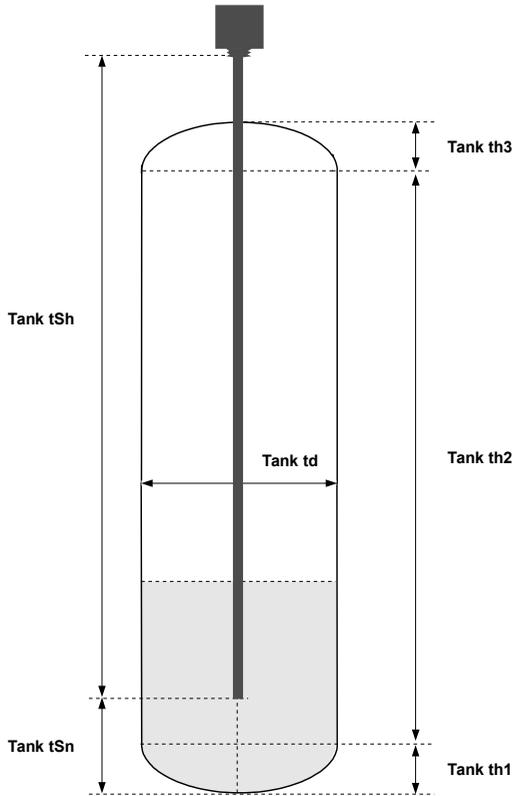
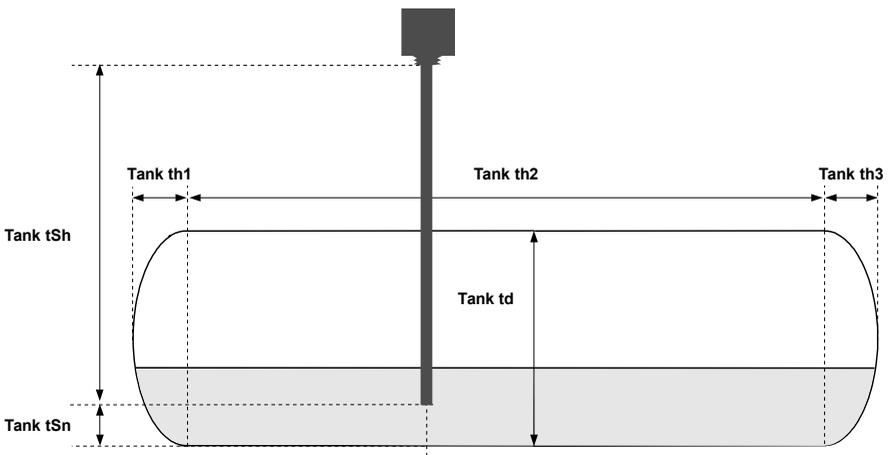

Figure 7.3. Tank parameters in vertical position
Figure 7.4. Tank parameters in horizontal position
- “Tank th1”** - the height of the **I** part of a tank in the shape of an elliptic paraboloid, fixed decimal point: 2, See **Figure 7.3** and **Figure 7.4**,
- “Tank th2”** - the height of the **II** part of a tank in the shape of a cylinder, fixed decimal point: 2, See **Figure 7.3** and **Figure 7.4**,
- “Tank th3”** - the height of the **III** part of a tank in the shape of an elliptic paraboloid, fixed decimal point: 2, See **Figure 7.3** and **Figure 7.4**,
- “Tank td”** - the diameter of the cylindrical shaped part of a tank, fixed decimal point: 2, See **Figure 7.3** and **Figure 7.4**,
- “Tank tSn”** - the distance from the probe to the bottom of a tank, fixed decimal point: 2, it is assumed that the unit in **“Tank tSn”** is 100 times greater than the unit in **“Tank tSh”**. See **Figure 7.3** and **Figure 7.4**,
- “Tank tSh”** - a measurement range, fixed decimal point: 2, See **Figure 7.3** and **Figure 7.4**,